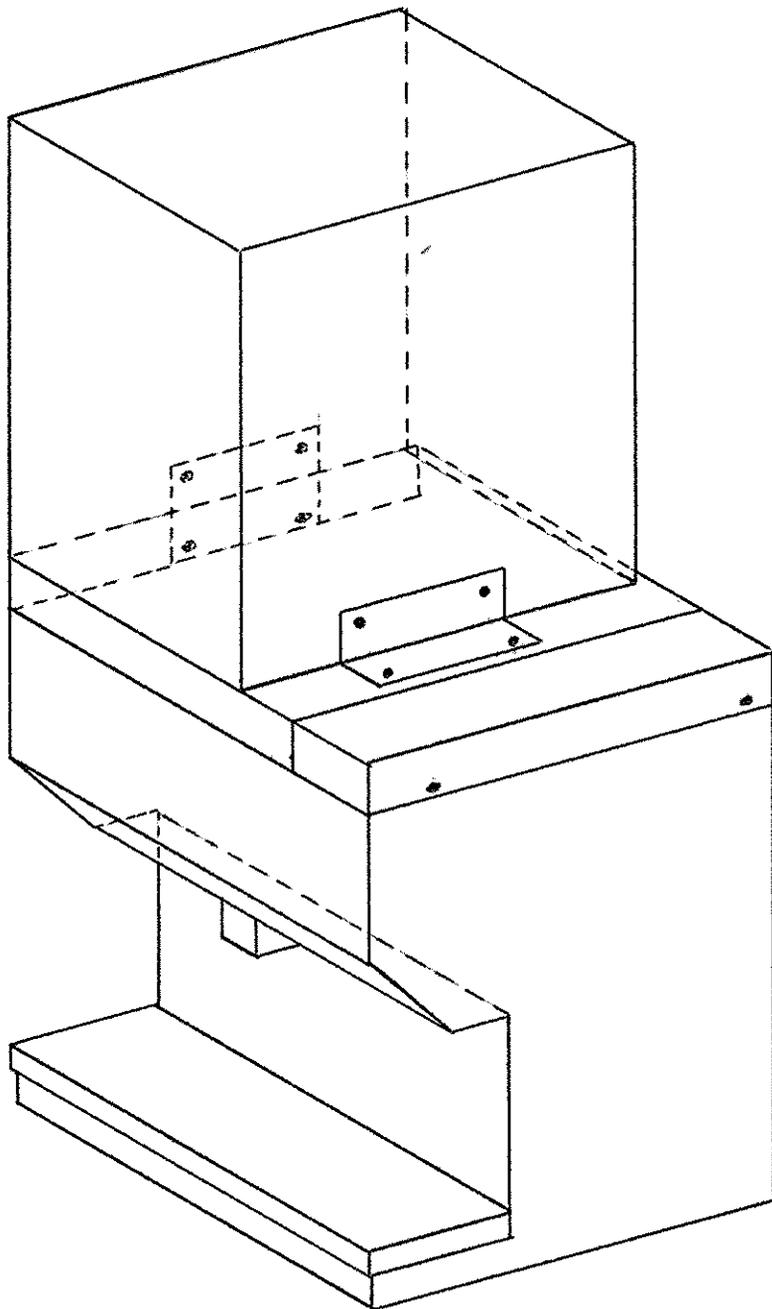

FIG. 3
8. Locate icemaker mounting brackets as shown in Fig 3. Using the brackets as templates drill .136 dia. holes (#29 drill size) in both the dispenser and icemaker cabinets and secure with sheet metal screws provided.